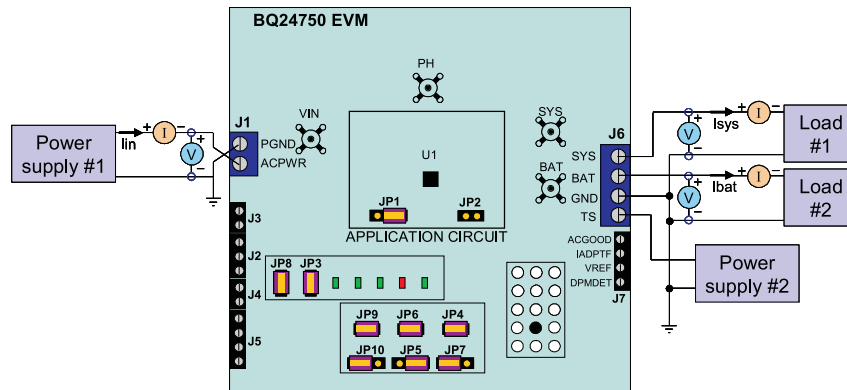
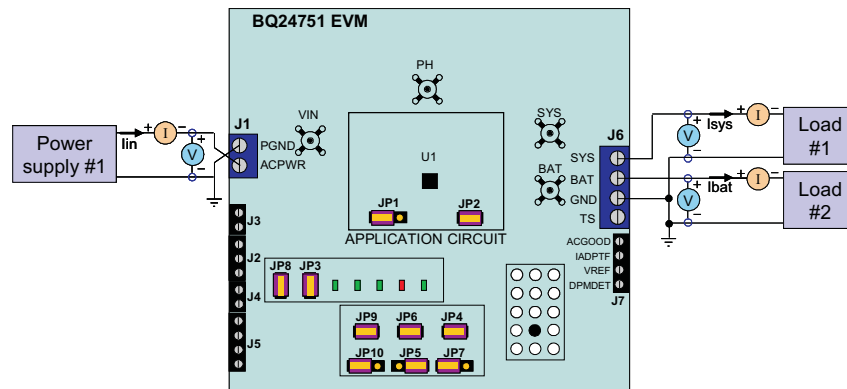

Figure 3. Test Setup for HPA207-001, -004, or -005
Figure 4. Test Setup for HPA207-002, -003, -006, or -007
3. Connect the output of the Load 1 in series with a current meter (multimeter) to J6 (SYS, GND). Make sure a voltage meter is connected across J6 (SYS, GND). Turn on the power of the Load 1. Set the load current to $4A \pm 50mA$ but disable the output. The setup is now like Figure 3 for HPA207-001, -004 or -005 and like Figure 4 for HPA207-002, -003, -006, or -007. Make sure $I_{bat} = 0A \pm 10mA$ and $I_{sys} = 0A \pm 10mA$.